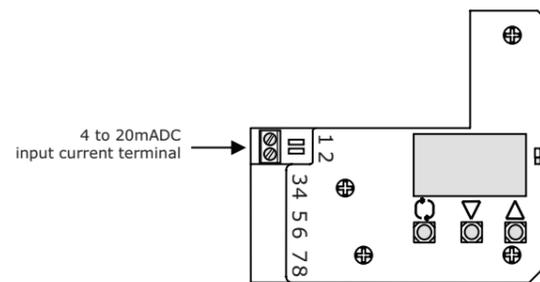

Fig. 7
- Connect the input current wiring from an adjusting meter (controller) following Fig. 7.